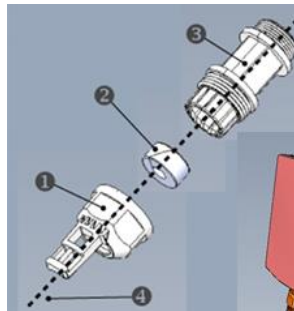

Figure 5 - EtherHaul-500TX connector gland assembly
- **Fix connector outlet (3)**
- **Fix rubber gasket (2)**
- **Fix cable inlet (1) with cable securing holes (designed for standard based strips)**
- **In this Figure 5, the dotted line (4) represents the cable.**